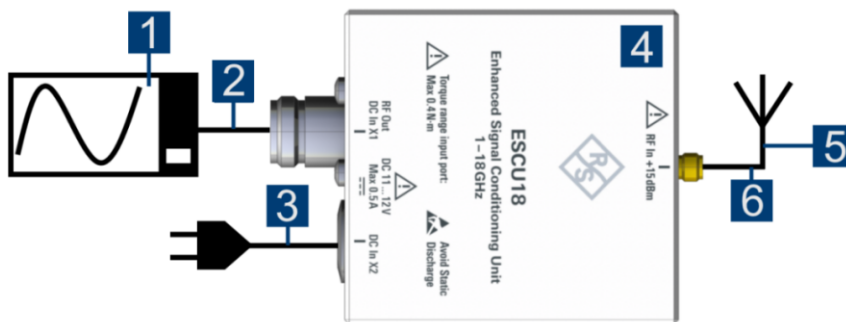
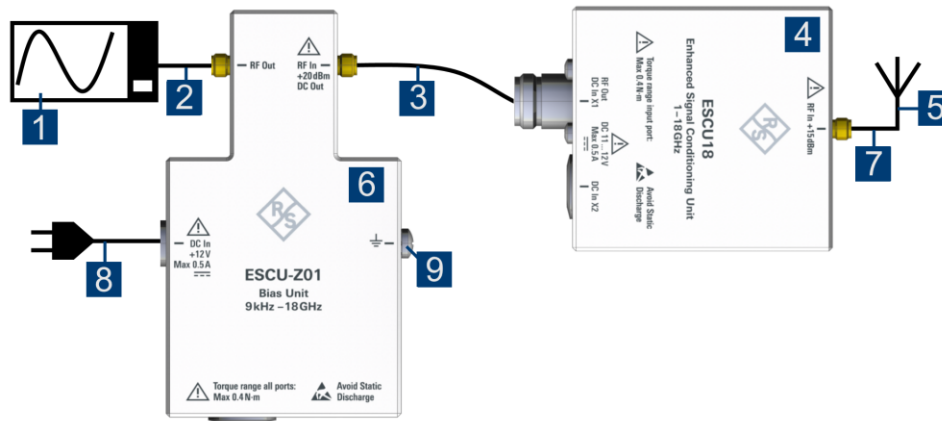

Figure 3-6: Preamplifier setup with a power supply unit only
Figure 3-7: Preamp setup with a bias unit
- For preamplifiers: [DC In X2] connector (5 in Figure 3-6).
- For bias unit: [DC In] connector (8 in Figure 3-7)
Connect the antenna's RF cable to the [RF In] female 2.92 mm K type connector of the preamplifier (6 in Figure 3-6).
3. Using a torque wrench, loosen the RF connectors in the setup (Figure 3-6).
Connect the RF cable to the [RF Out/DC In X1] female N type connector of the preamplifier (2 in Figure 3-6).
Connect the RF cable to the [RF Out] female 2.92 mm K type connector of the bias unit (2 in Figure 3-7).
3. **NOTICE!** Risk of damaging devices. The bias unit provides DC power over an RF cable to the preamplifier. If the preamplifier is used with a bias unit, check that the [RF Out] and [RF In] connectors on the bias unit are connected according to Figure 3-7.
Connect the RF cable to the [RF In/DC Out] female 2.92 mm K type connector of the bias unit (3 in Figure 3-7).
3. Using a torque wrench, loosen the connectors in the setup (Figure 3-6 or Figure 3-7).
The preamplifier is powered directly using the power supply unit (Figure 3-6) or a bias unit (Figure 3-7).